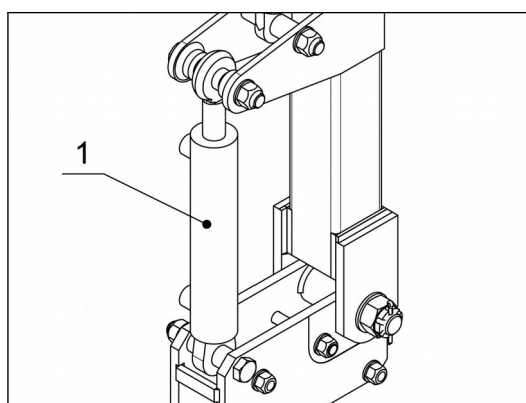

Fig. 29
2. Use the control unit to set desired STS post angle by the hydraulic cylinder (Fig. 29, No. 1).